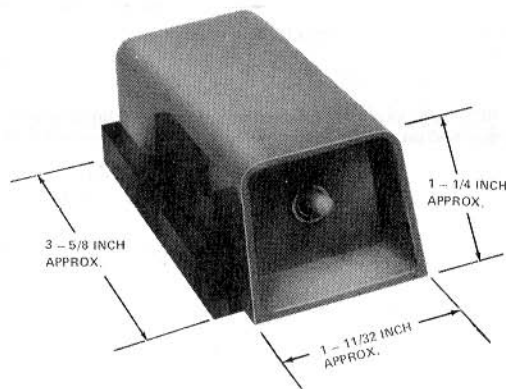

Fig. 7—KS-21776 Type Key
2.06 ♦KS-21776 Type Key (Fig. 7, 8, or 9).